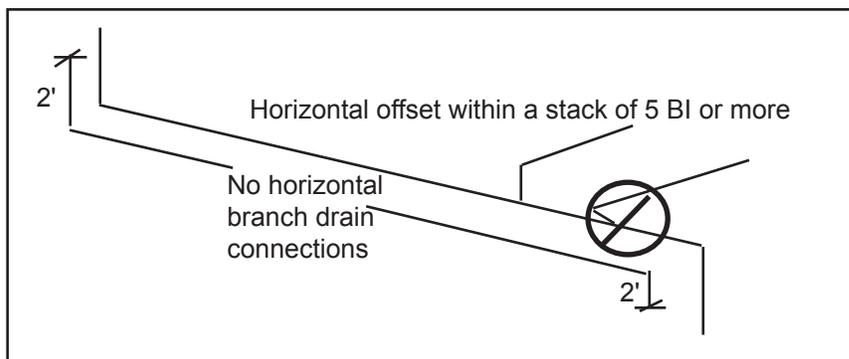

Figure 36. Connections to horizontal offset below 5 or more branch intervals.
2. When 5 branch intervals exist above the horizontal offset, no horizontal connections to the stack may be made from 2 feet above the offset to 2 feet below the offset. (Figure 36)